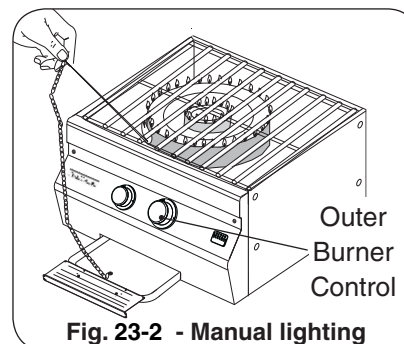

Fig. 23-2 - Manual lighting
**WARNING:** **DO NOT** put hand directly above the burner when lighting but off to the side as shown (Fig. 23-2).
- 2a. Insert either a burning long-barrel butane lighter, a burning long-stem match, or a burning match held by a wire extension holder through the cooking grids to the desired burner to be lit (Fig. 23-2). **With the flame still next to the burner, depress the corresponding control knob (outer burner- right knob, inner burner-left knob), and while pressing turn it counterclockwise to the HI LIGHT position.** Remove the lighter or match when the burner lights, and release the control knob.
3. If the burner does not light within five (5) seconds of turning the control knob, **IMMEDIATELY** turn the burner control knob to the **OFF** position. **WAIT FIVE MINUTES** before repeating steps 2 and 3 of the MANUAL LIGHTING INSTRUCTIONS.